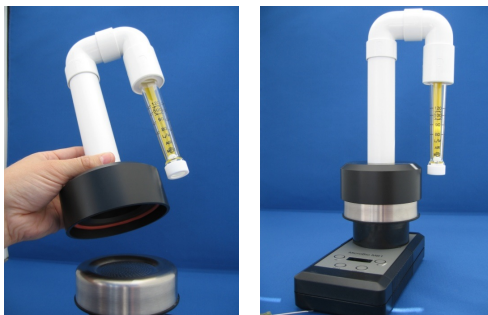

Figure 3: Fitting validation rig to the MB1/MB2 bioaerosol sampler
Fit the supplied Petri dish (4) or contact plate (3) into the MB1 or MB2 bioaerosol sampler to be validated and fit the sampling head. Then place the validation rig on top of the MB1 or MB2 sampling head as shown in figure 3.